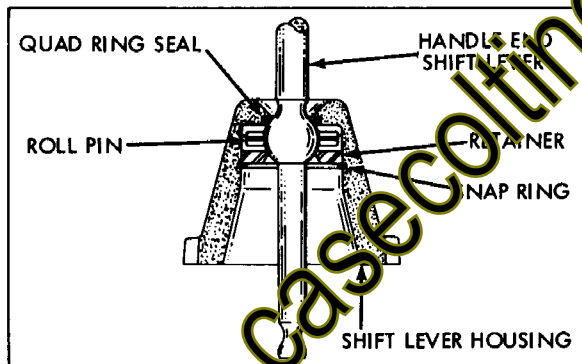

Figure 3-2
- b. Use the proper compressing type tool for removing the snap ring. Loosen the vise and disassemble the pieces (Fig. 3-2).
c. Remove the shift lever from the shift lever housing. Examine the roll pin in the ball of the shift lever, (Fig. 3-2) if bent or worn, replace. When inserting a new roll pin in the ball, position so that equal lengths protrude from both sides of the ball.
d. Oil leakage past the point where the shift lever enters the shift lever housing will require replacement of the quad ring seal in the shift lever housing (Fig. 3-2).